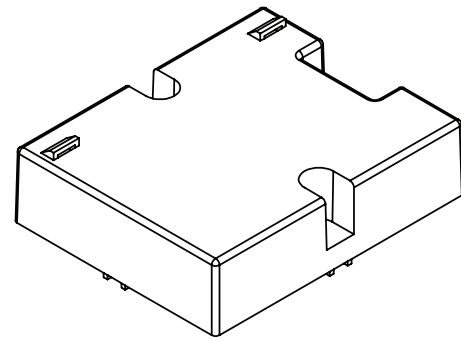

Fig. 40 — Enthalpy Sensor
6. Place enthalpy sensor, shown in Fig. 40, in location suitable to meet manufacturer's requirements.